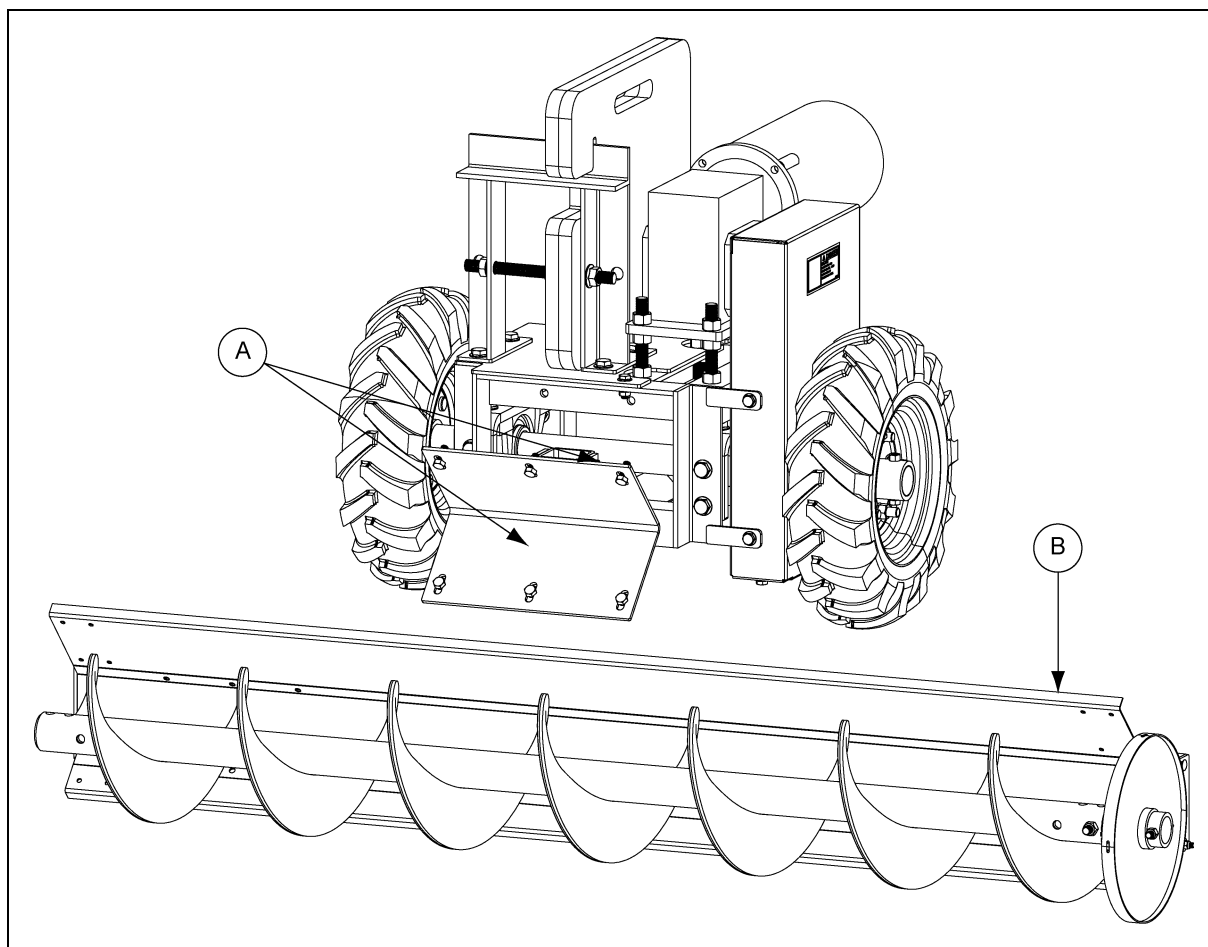

Figure 4AB Sweep Tractor to Shield Assembly
4. After marking the hole locations, drill six (6) 7/16" holes and attach the sweep tractor to the back shield (B) using six (6) 3/8" x 1" hex head cap screws, flat washers and nylock nuts.
5. Install electric wiring for motor and controls. (*See Figure 4AB.*)